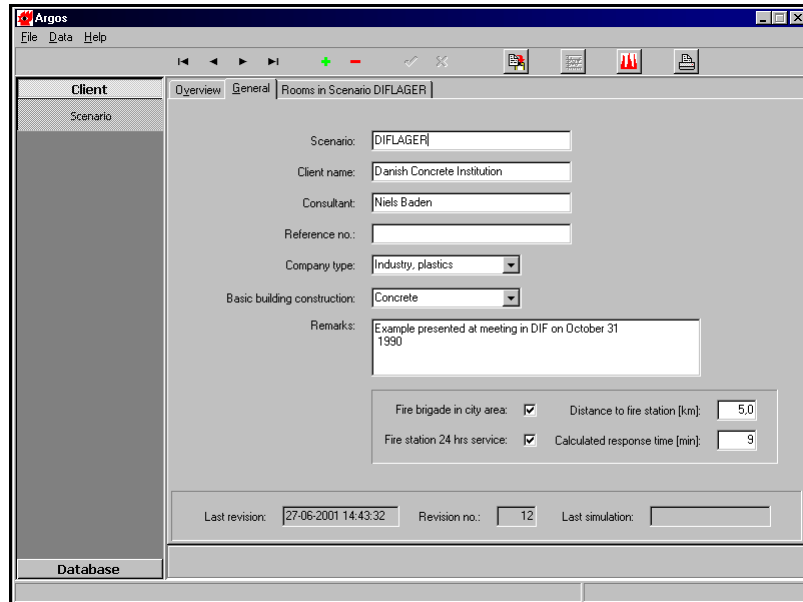

Figure 3.1: The General tab of a scenario
1. On the *Overview* tab, click the **Create** button. Argos then automatically opens the *General* tab. Enter the basic information about the scenario, such as shown in figure 3.1.